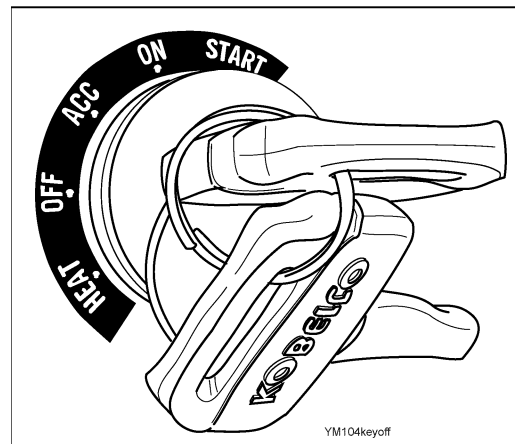

FIGURE 4.5C
1. Turn key switch to iOFFi position. Wait 4 seconds for electrical power to disconnect. See Figure 4.5C.